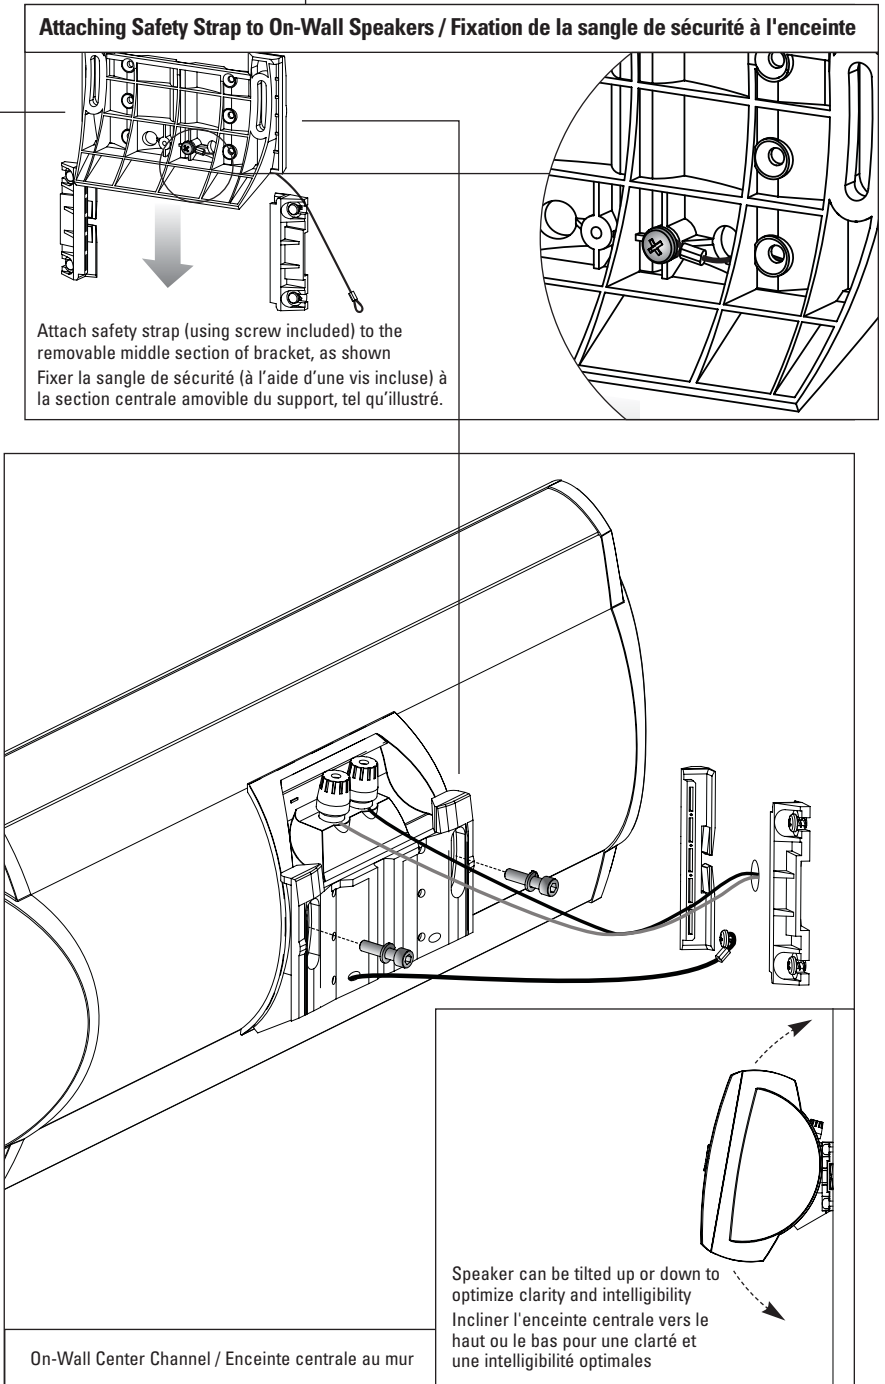

Fig. 8
- Tilt the center speaker up or down to further optimize clarity and intelligibility (Fig. 8, inset)